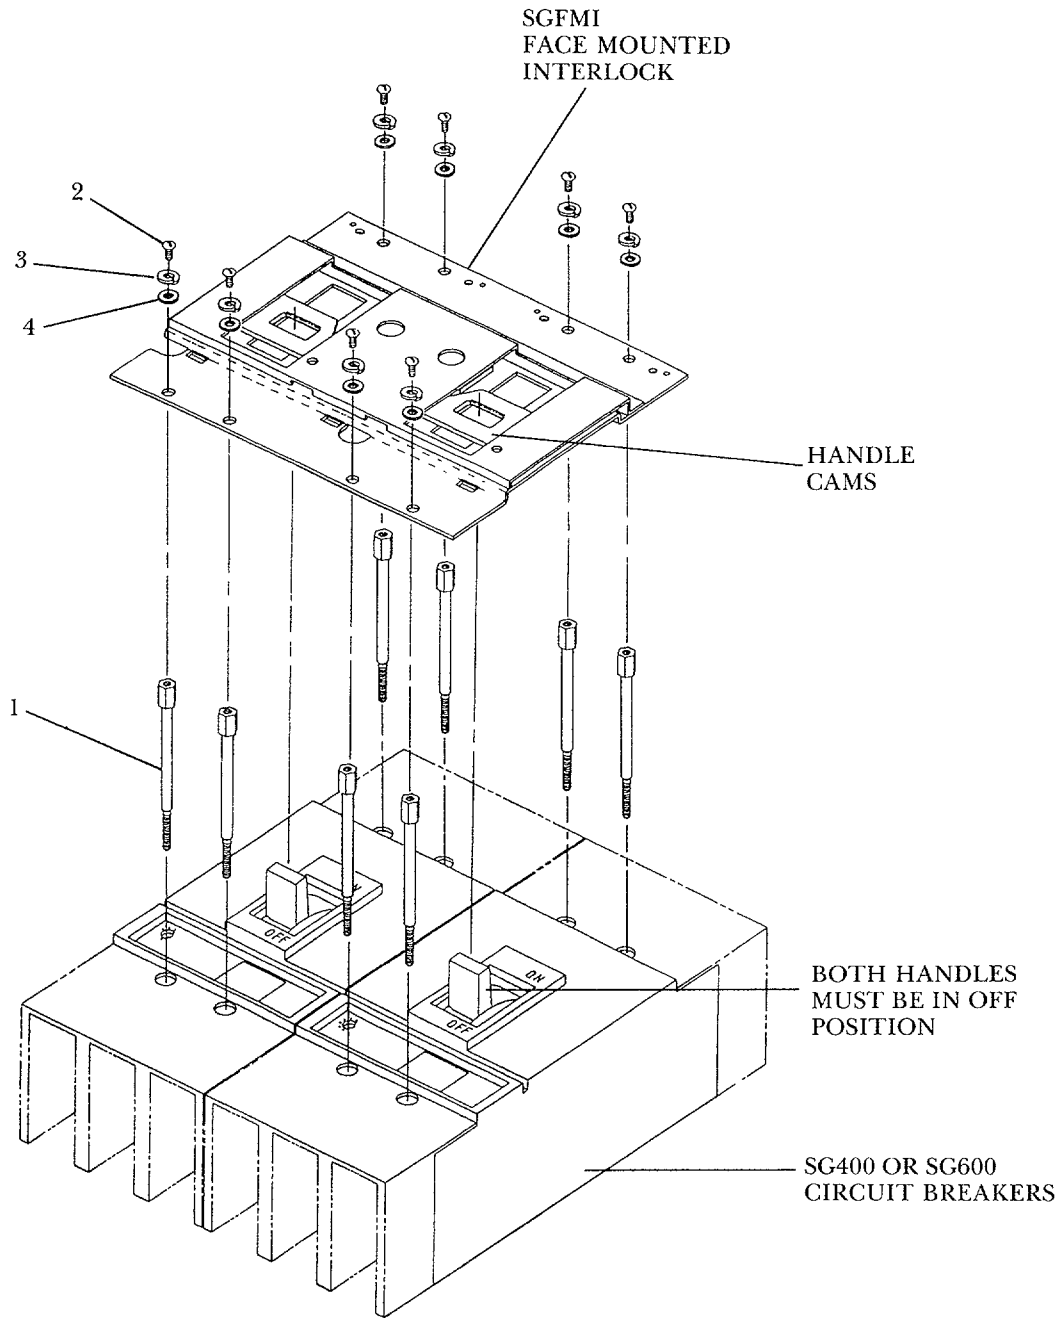

Figure 2.
2. Secure both SG400 and SG600 circuit breakers on panel face using eight mounting studs (1). Refer to Fig. 2.
7. Secure the Interlock in place using eight #10-32 screws (2), lockwashers (3), and flatwashers (4).